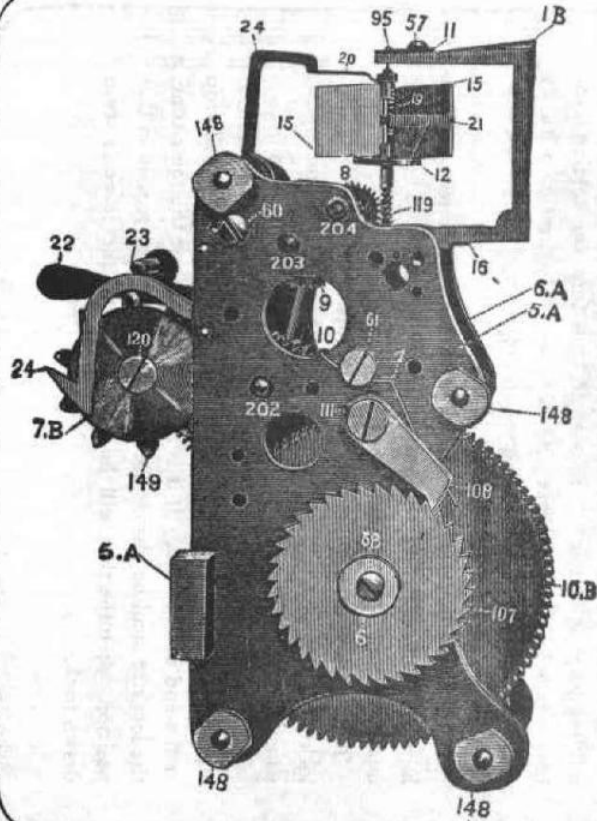

FIG. 3.
*Third*, remove the screw below the bed plate, (5 A, Fig. 3).
Before the governor or any other part of the movement is removed, ascertain whether the main-spring is down. If it is, the main-spring barrel 10 B, Fig. 3, will be found loose, if not, it will bind rigidly with the other gear wheels. Whenever proper oiling, as directed above, does not give the desired result, it is advisable to examine the governor. The governor and its mounting comprises the angle piece (1 B), the worm-shaft 119 with governor-fans mounted thereon, a jewel mounting 11-57, jewel 95, and adjustable pivot plate 16.